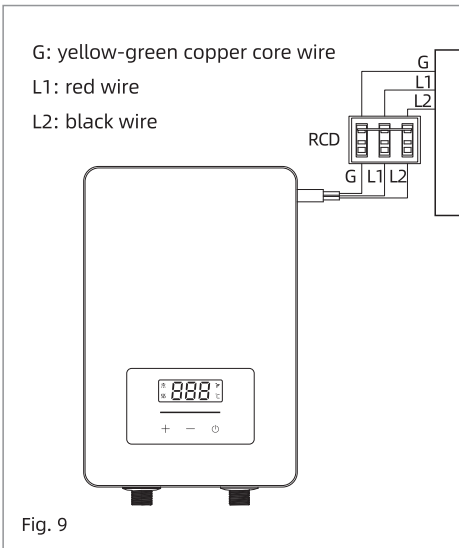

Fig. 9
7. Connect the power cord (Fig. 9).